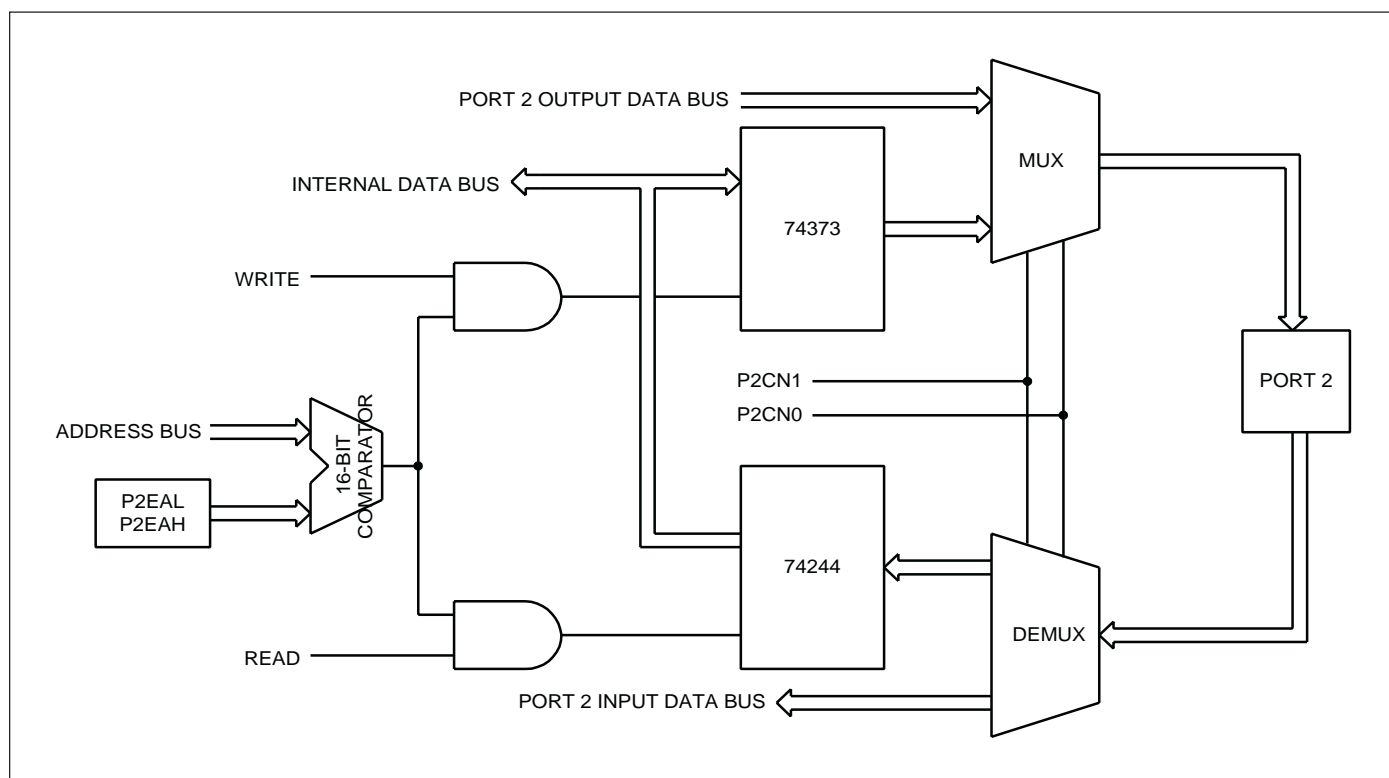

Figure 12. IC89E54/58/64 Port 2 Architecture
**P2EAH, P2EAL:** The Port Enable Address Registers for Port 2 is defined as input buffer like 74244, or an output-latched logic like a 74373. The P2EAH contains the high-order byte of address, the P2EAL contains the low-order byte of address. Figure 12 shows architecture of Port 2. The following example shows how to program the Port 2 as a output-latched port at address 5678H.